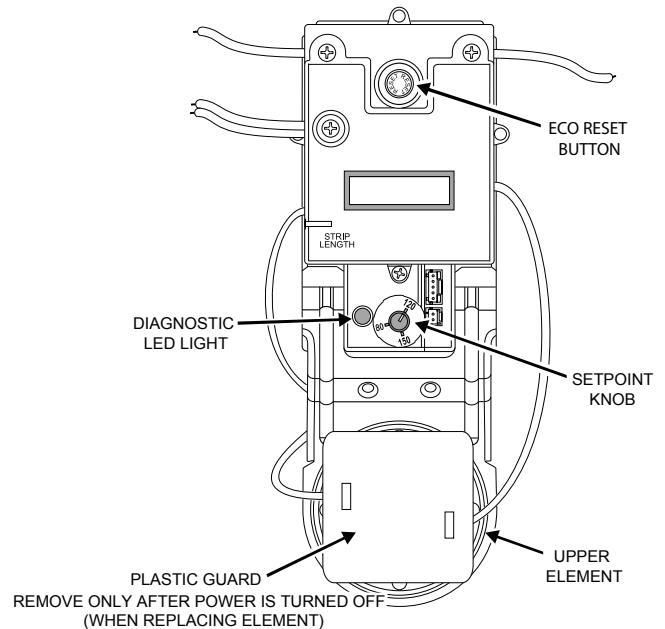
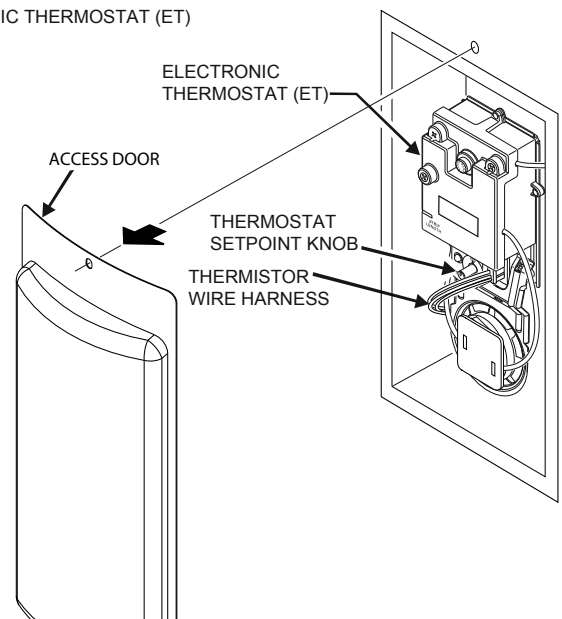

FIGURE 14
FIGURE 15
This water heater is designed to automatically shut-off in the event that the water temperature exceeds 180° F (82.2° C). A temperature limit switch, or ECO (Energy Cut Off), is used to shut off the power to the system if the water temperature exceeds 180° F or 82.2° C. The ECO can be reset by firmly pushing in the red reset button located on the electronic thermostat. (See Figure 14 on page 17.) If the ECO continues to shut-off the water heater contact a qualified service technician.
The Electronic Thermostat may be access by removing the upper Access Door (See Figure 15). Adjusting the water heater by rotating the set point knob right or left for the desired temperature (See Figure 14). The Electronic Thermostat consists of an electronics box that contains a low voltage power supply, the thermostat set point knob, relays to switch between the upper and lower heating elements, one control thermistor, a connector for the lower element control thermistor, microelectronics to convert the thermistor signals and perform switching and other logic functions, and a connector to tie the Electronic Thermostat (ET) to the Assurelink™ / Home Automation Controller (purchased separately) located on the top of the water heater. The majority of the self-diagnostics are located in the Electronic Thermostat (ET), including the dry-fire protection intelligence. The thermostat circuit is designed so that when the upper heating element calls for heat, the power is directed to that element even if the lower element is also calling for heat.
The Green/Red LED light indicates the status of the electronic thermostat (Figure 14).